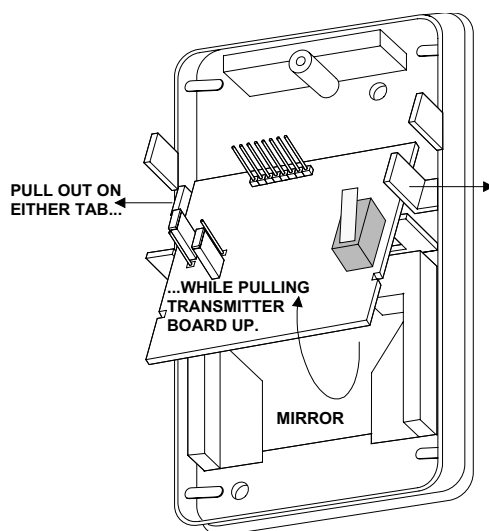

Figure 12. Removing the PIR Circuit Board
4. Carefully remove the PIR (lower) circuit board by pressing outward on either side tab, then pull up on the circuit board (see Figure 12).